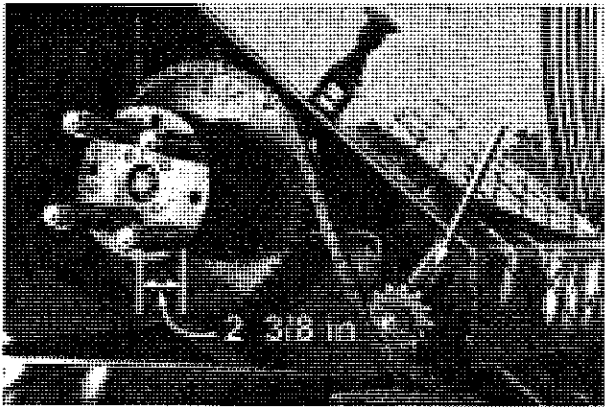

Figure 48. Wheel Elevator Slip Clutch
The elevator drive is protected by a slip clutch (see Figure 48). The four (4) springs set the tension of this clutch. The recommended setting is 2-3/8" actual length of the springs. Be sure all four springs are set at the same length. **Keep the jaws free of grease.**